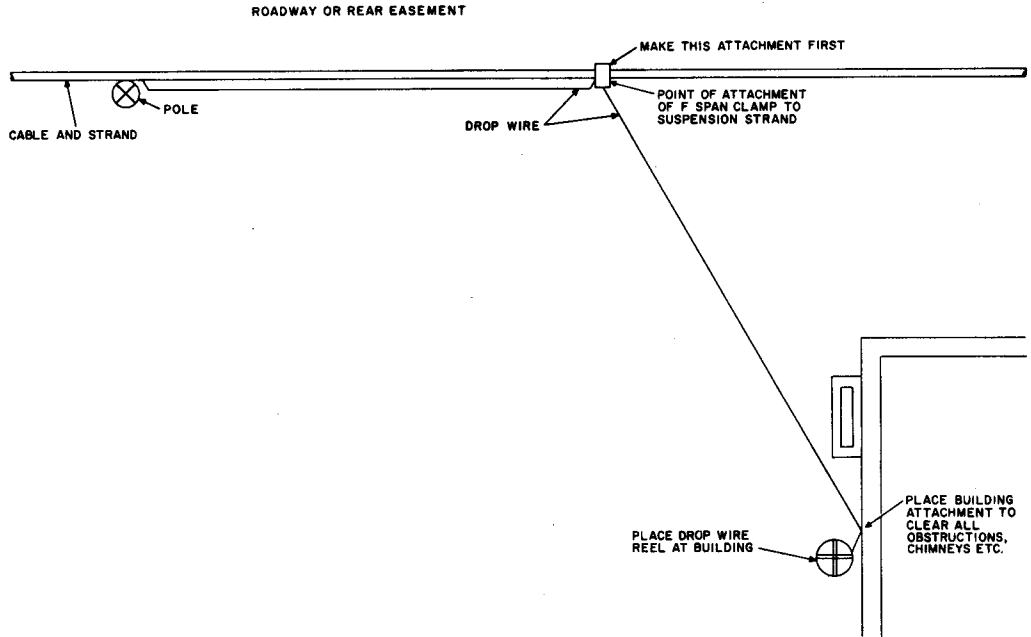

Fig. 3—Relative Positions of Pole, Building and F Span Clamp
3.01 Contrary to normal practices, the procedure for placing drop wire with the F Span Clamp requires that the suspension strand attachment must be completed first. For this reason, the F Span Clamp is not recommended for use when the subscriber's premises are located on the opposite side of the street from the distribution cable. The danger in such cases is that vehicular traffic may be obscured from the craftsman's vision during building attachment operations. Figure 3 shows the relative positions of the pole, F Span Clamp, and the building attachments.
- (1) Determine the location of the F Span Clamp on the strand and the drop wire building attachment to avoid obstructions such as chimneys, etc (Fig. 3).
- (2) Place the building attachment hardware for supporting the drop wire as described in Section 462-350-213. Place the drop wire reel near the attachment location.
- (3) Unroll sufficient drop wire to reach the span clamp location and the cable distribution terminal at the pole.
- (4) Make certain the F Span Clamp is open as wide as possible. Back off the beveled clamp screw, if necessary. Screw the B Clamp Wrench